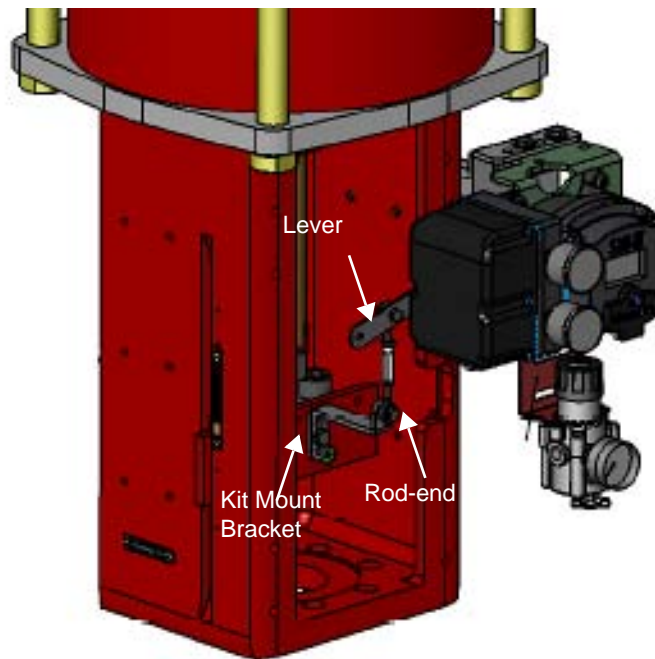

Figure 12 84/85/86 Valve
2. Mount the kit mount assembly to the yoke (Figure 12) using helical spring washer 5/16, flat washer 5/16 and hex screw 5/16-18x44.5 [1.75] LG.